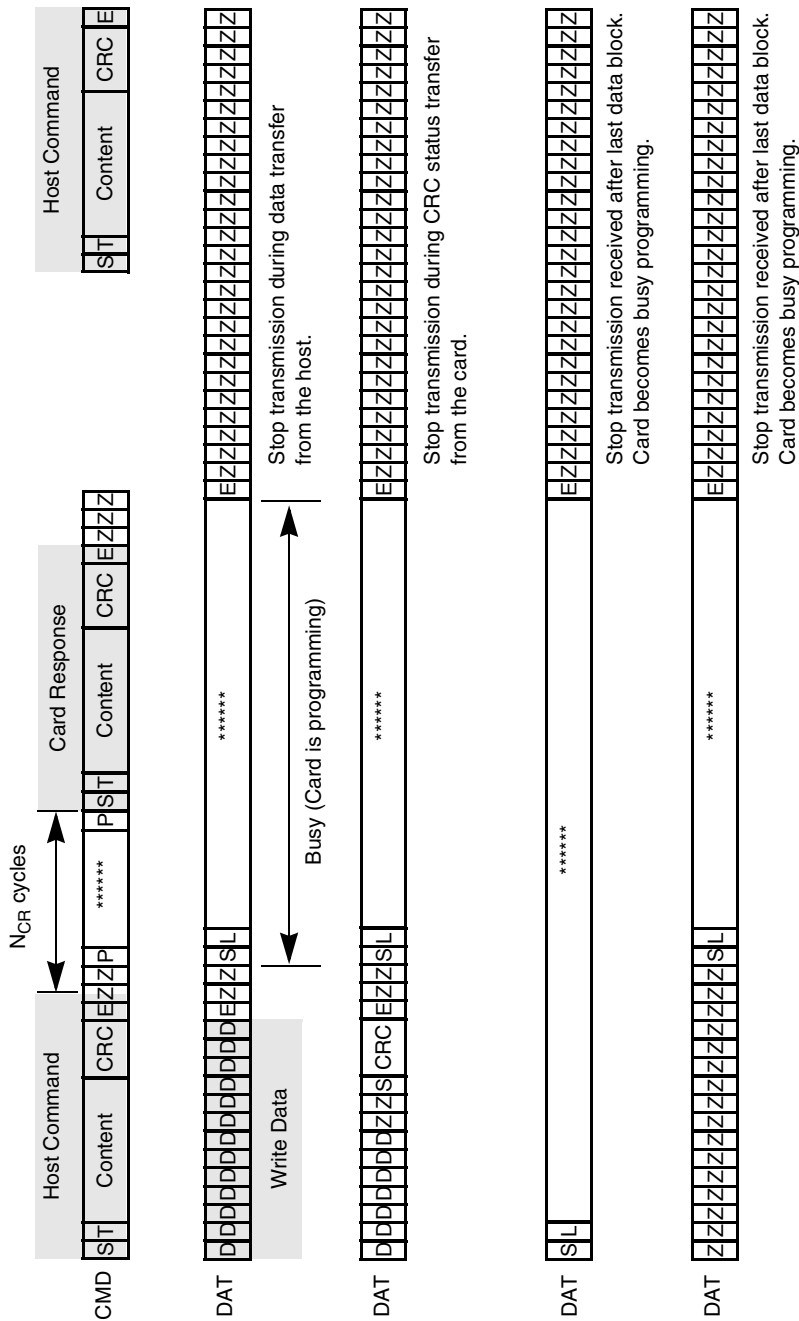

Figure 30. Stop Transmission During Different Scenarios
The card identification and card operation conditions timing are processed in open-drain mode. The card response to the host command starts after exactly  $N_{ID}$  clock cycles. For the card address assignment, SET\_RCA is also processed in the open-drain mode. The minimum delay between the host command and card response is  $N_{CR}$  clock cycles as illustrated in Figure 26. The symbols for Figure 26 through Figure 30 are defined in Table 26.
**Table 26. State Signal Parameters for Figure 26 through Figure 30**
The stop transmission command may occur when the card is in different states. Figure 30 shows the different scenarios on the bus.
Table 27. Timing Values for Figure 26 through Figure 30
Table 27. Timing Values for Figure 26 through Figure 30 (Continued)